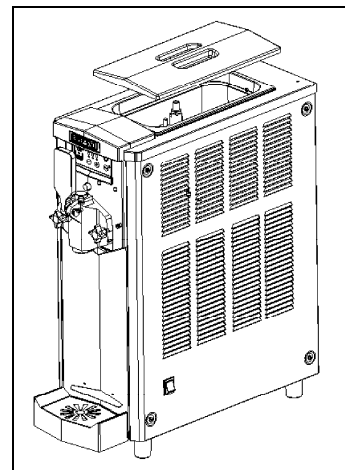

Fig. 8
- Replace the cover on the tank, insert the plug and turn on the main switch A (fig. 8).